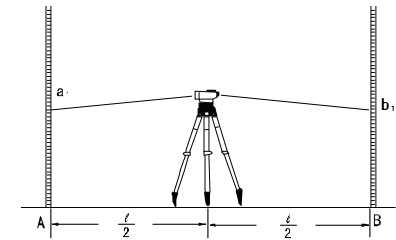

Fig.12
- (1) Set the instrument halfway between A and B, staff A and B shall be 30~40m away, the readings are a_1, b_1 (Fig.12)